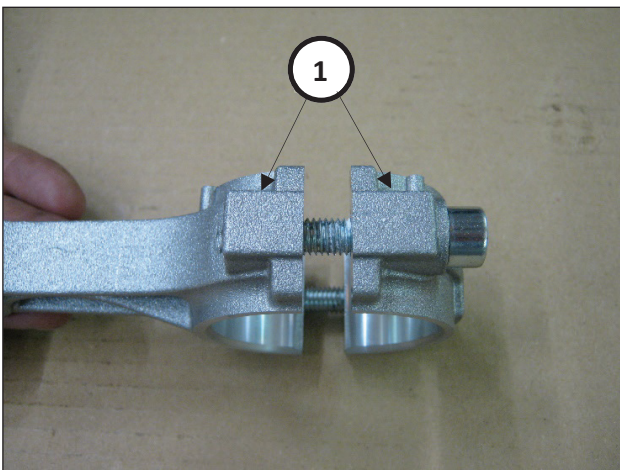

Fig. 9
- Couple the con-rod caps to their shanks (Fig. 9, pos. ①).